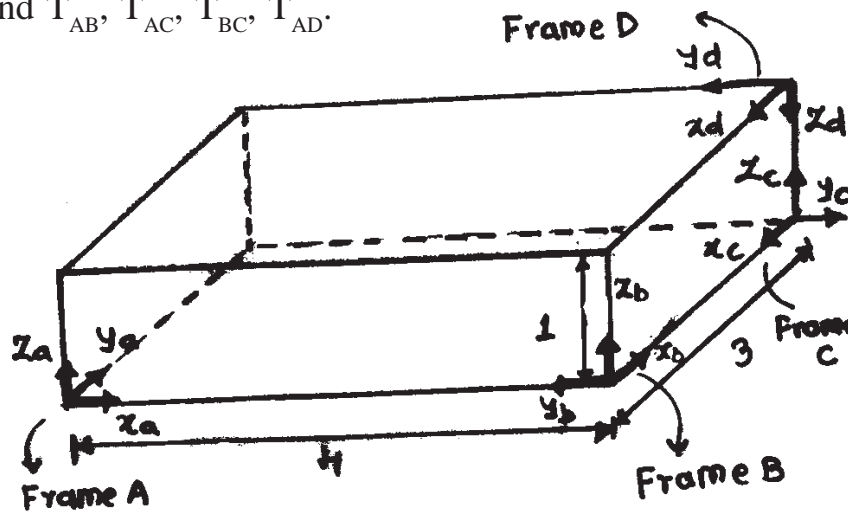

FIG 8b
b) Frames A,B,C and D are attached to the corners of a cuboid as shown in Figure 8b. Using the concept of homogeneous transformation matrix, find  $T_{AB}$ ,  $T_{AC}$ ,  $T_{BC}$ ,  $T_{AD}$ . [10]